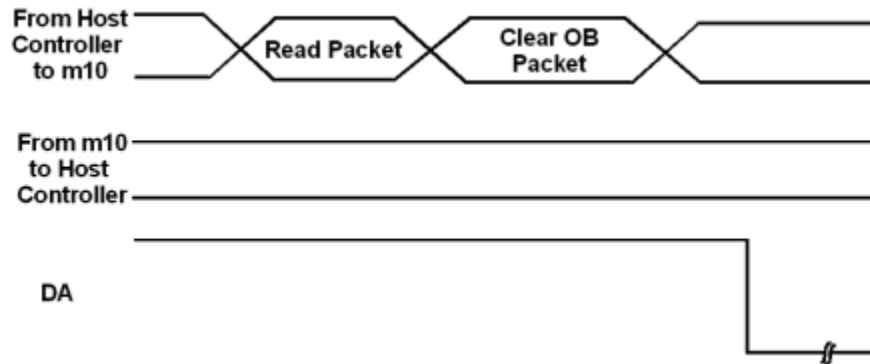

Figure 6: Timing Diagram for Data Available
goes low only after the host controller has cleared the outbound (OB) queue. The Digi m10's timing diagram for DA is shown in Figure 6.
The Digi m10 has also been tested according to *SAEJ1455* (as per the practices for heavy duty trucks), which specifies that the vibration profile for CAB-mounted vibration PSD for Vertical Axis (*Figure 6*, 1.04 g rms) is to be tested in three mutually perpendicular planes and that a sweep rate of ½ octave per minute is to be used.